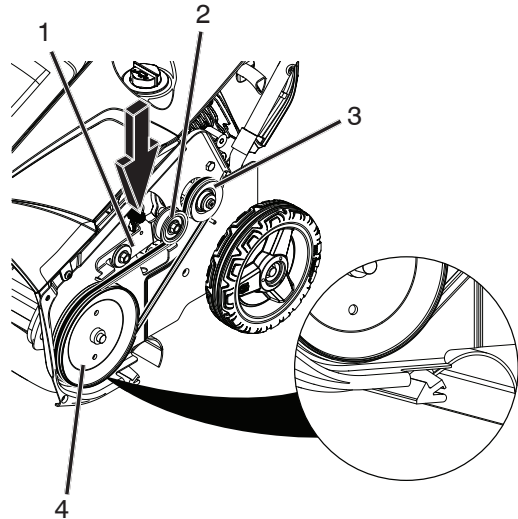

Figure 33
4. Install the new auger V-belt and drive pulley, routing it as shown in Figure 33.
NOTE: Route the new auger v-belt first around the engine pulley, then the idler pulley, and finally around the drive pulley while pressing down on the front of the idler arm. (Figure 33).